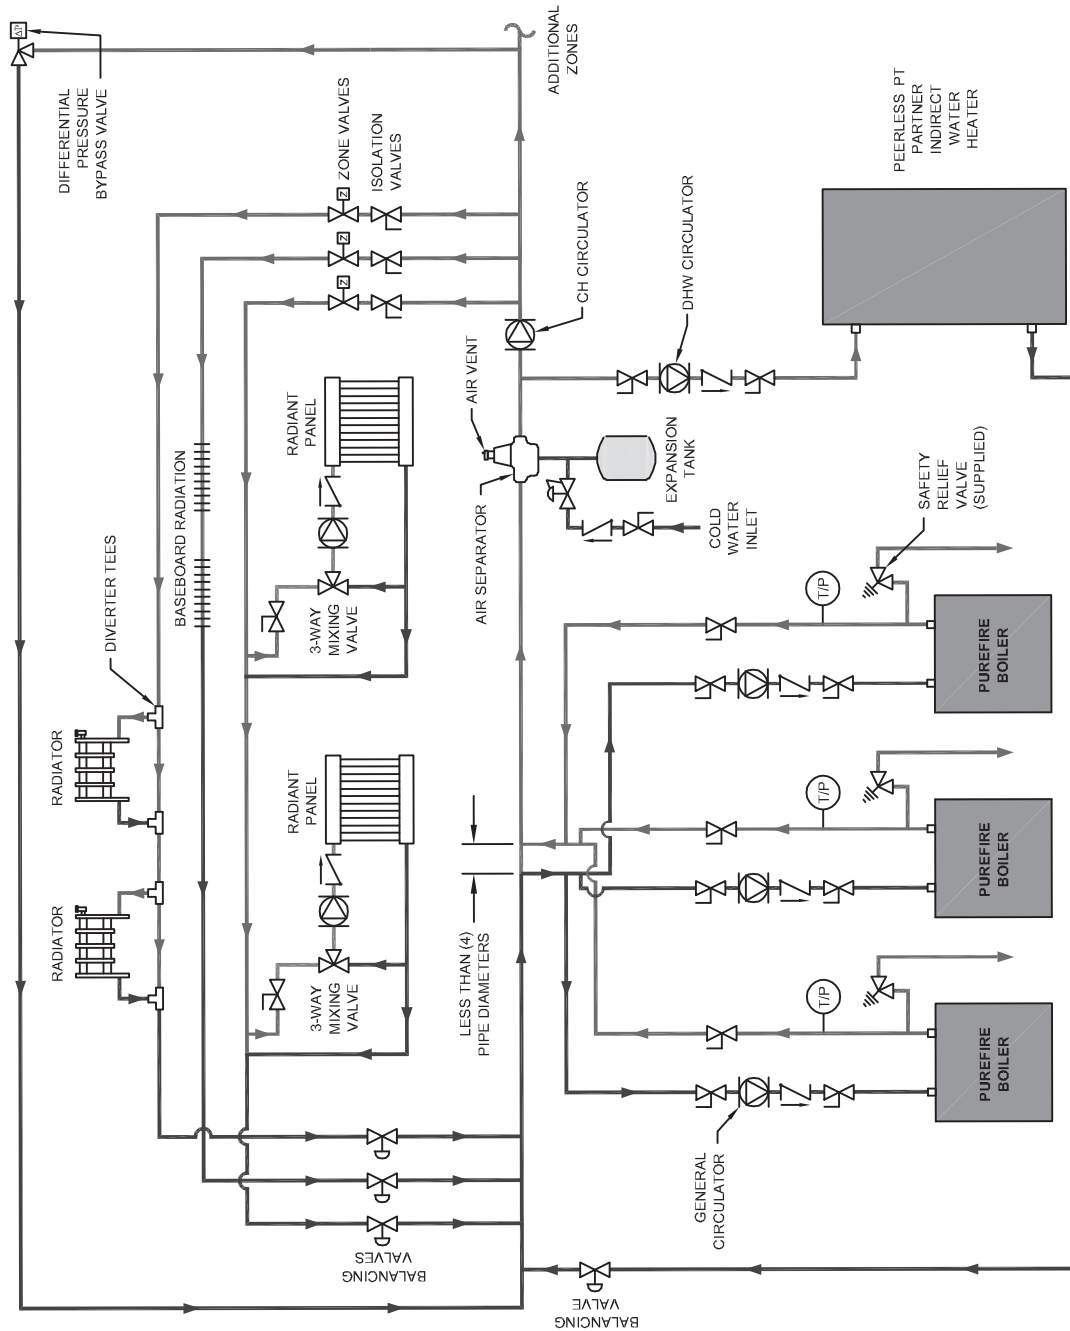

Figure 4.9: Three Boilers, Primary/Secondary with Four Zones (Zone Valves)
5. In Figure 4.9 zone valves are used instead of zone circulators. Notice that the system is piped using reverse return piping to help balance the flow through the zones. If the zone lengths vary balancing valves are required on each loop.